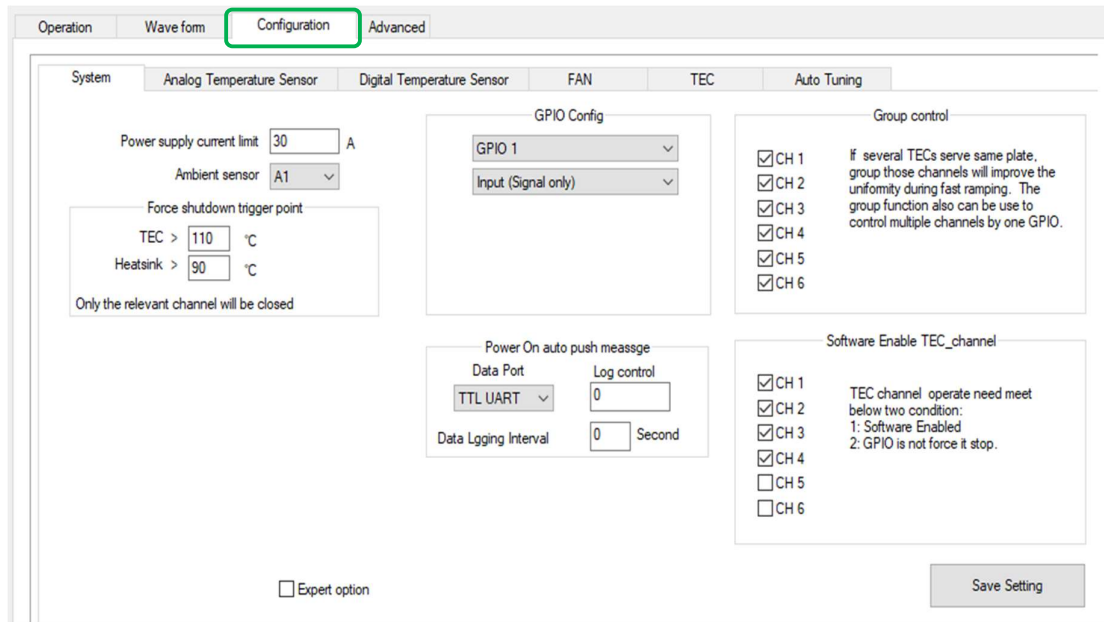

Figure 3.3: System configuration
Step 6) Click on **Configuration** → **System**. This will bring you to the “**System**” sub-tab, which will show the current default settings (Figure 3.3).